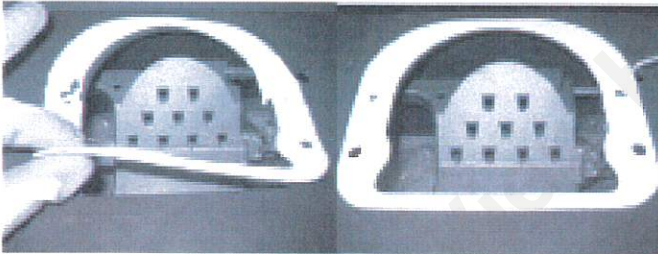

Figure 6
7. Remove the old fire pot gasket and discard; replace it with the new fire pot gasket included in the kit (Figure 6).